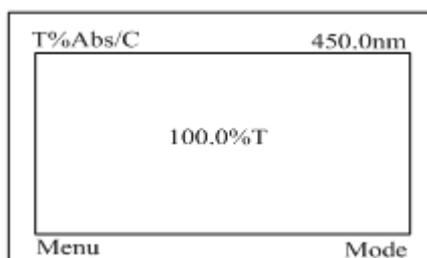

Fig 10
- ✧ Press **【ENTER】** to change the wavelength from 546.0 nm to 450.0 nm, and then blank; after blanking, the screen displays as Fig 10.